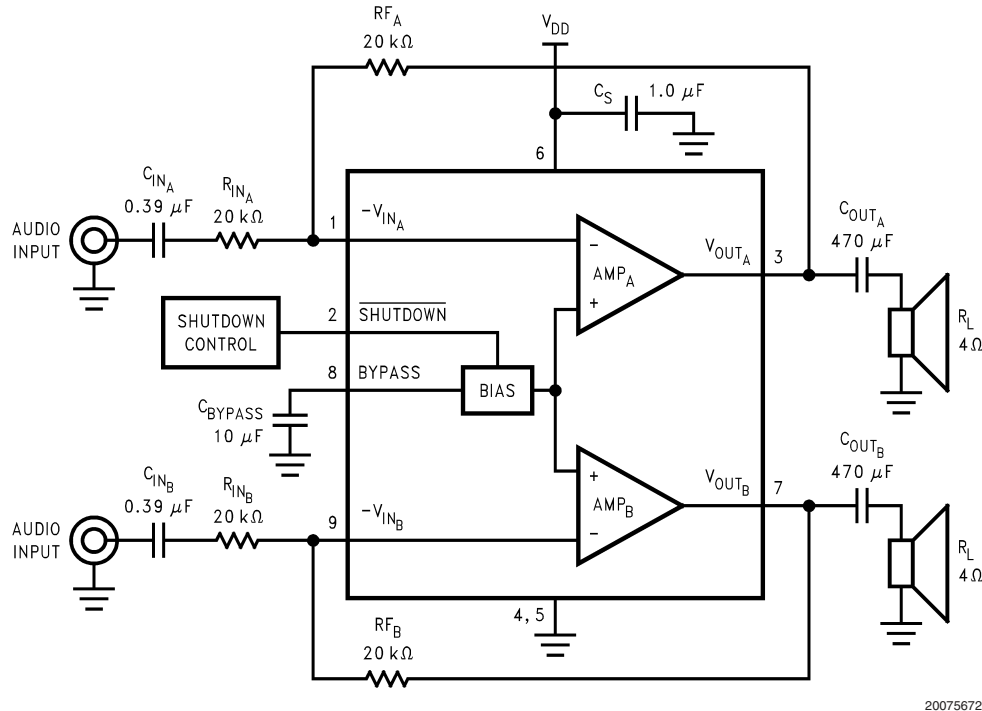

FIGURE 3. Typical LM4940 Stereo Amplifier Application Circuit
As shown in Figure 3, the input resistor (R_{IN}) and the input capacitor (C_{IN}) produce a high pass filter cutoff frequency that is found using Equation (7).